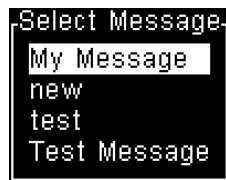

Figure 5-36: Select Message Dialog Box
- 3 Press Enter to open the Select Message dialog box (Figure 5-36).